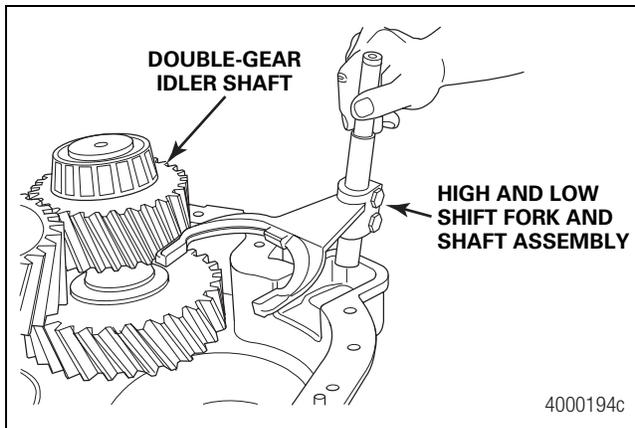

Figure 6.4
- Install the high and low shift fork and shift shaft into position in the front case. Figure 6.4.